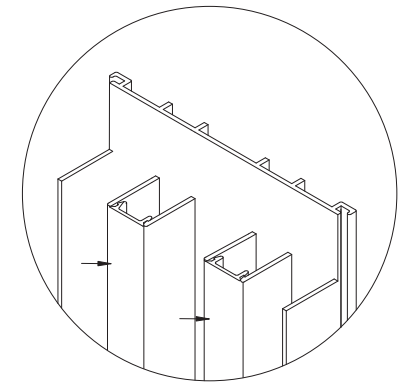

Figure 10
14. Install the main frame jamb screw covers. They will fit in-between the sill inserts and head screw covers. (See Figure 10)